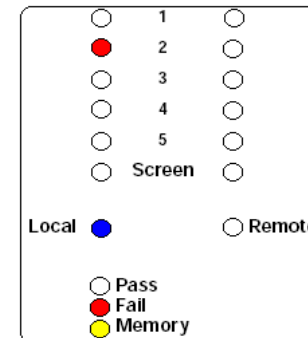

Fig 15. OPEN circuit between Local Pin 2.
b) An open connection was found, usually indicated by a single LED (Fig15).